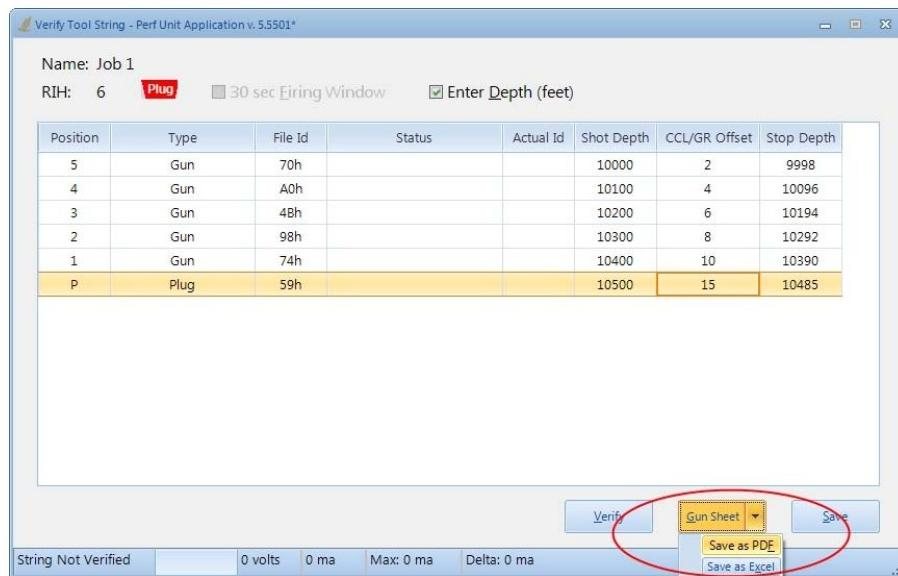
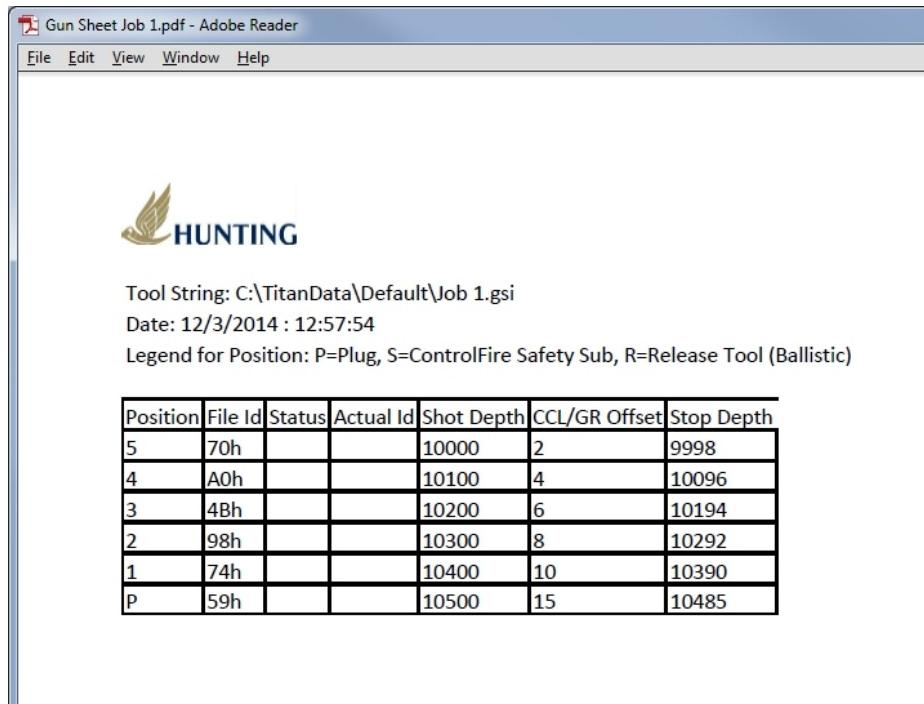

Figure 28
Figure 29
4. Click on the “Gun Sheet” button if you wish to print out a copy of the tool string with depths for correlation purposes. See Figure 28. After saving as a PDF, a gun sheet, as shown in Figure 29, will be available to view and print. **This step is optional.**